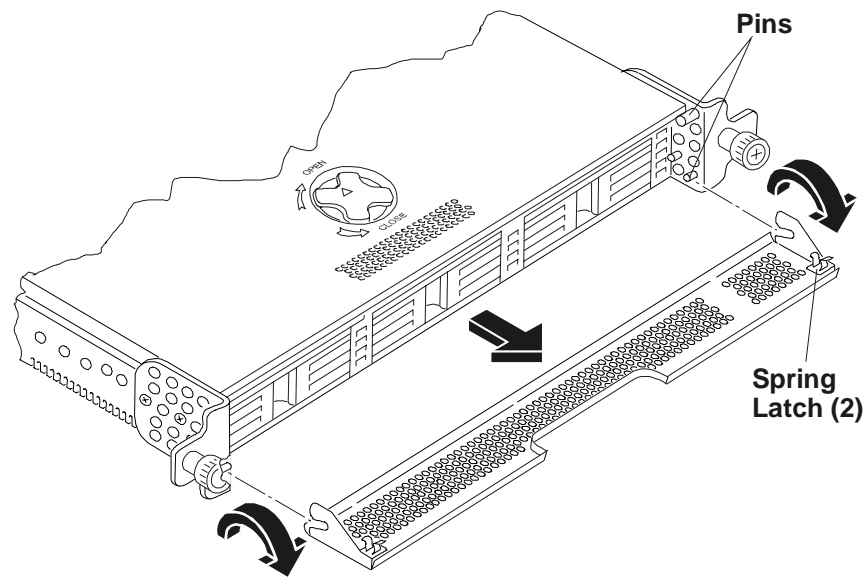

Figure 2-1. Front Bezel Location
2. Release the front bezel by placing your hand at the center of the half-moon opening in center of the front bezel. See Figure 2-1.
4. Pull and lift the bezel out toward you and remove it from the chassis. See Figure 2-1.